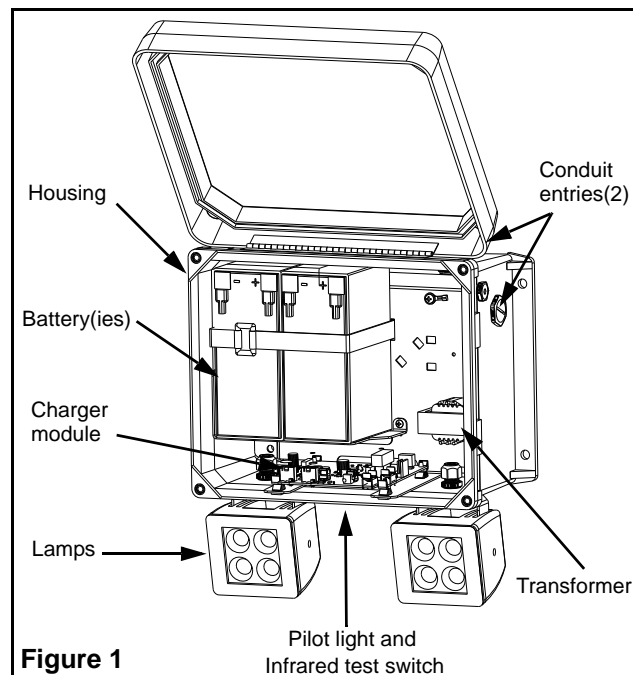

Figure 1
2. Open the cover (See figure 1).
- For vertical pole mount: in addition to the Velcro strap, install the metal strap and screws provided in the installation kit (Fig 1.) to hold the battery(ies).